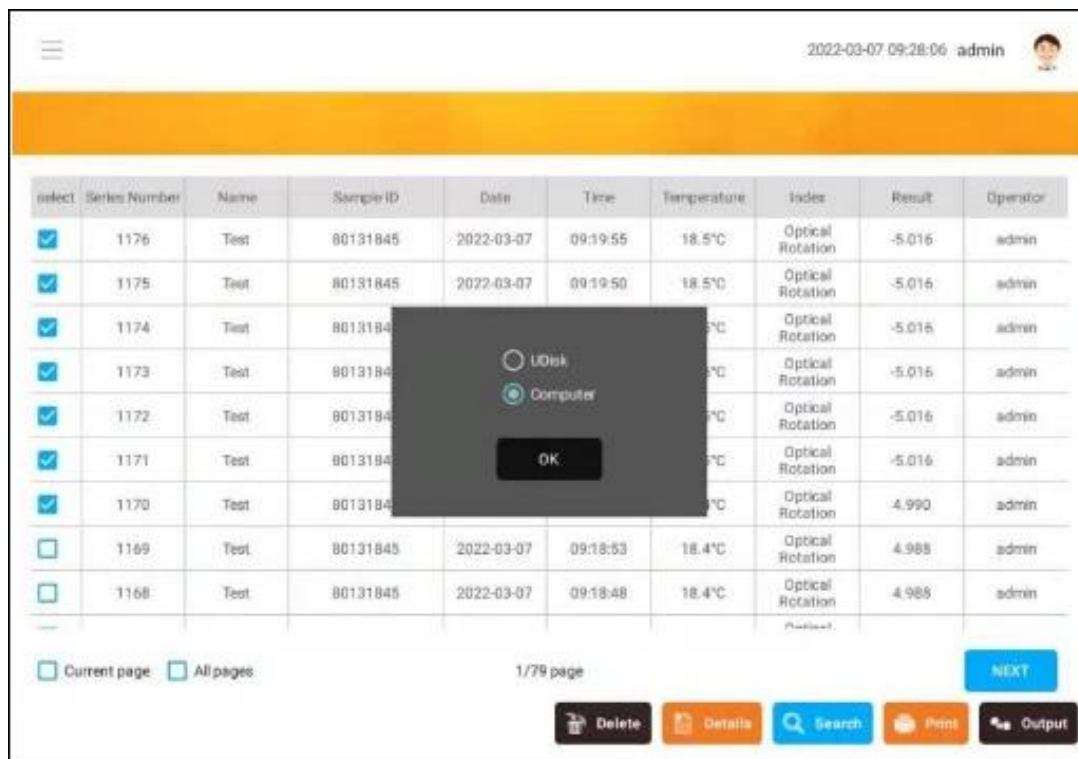
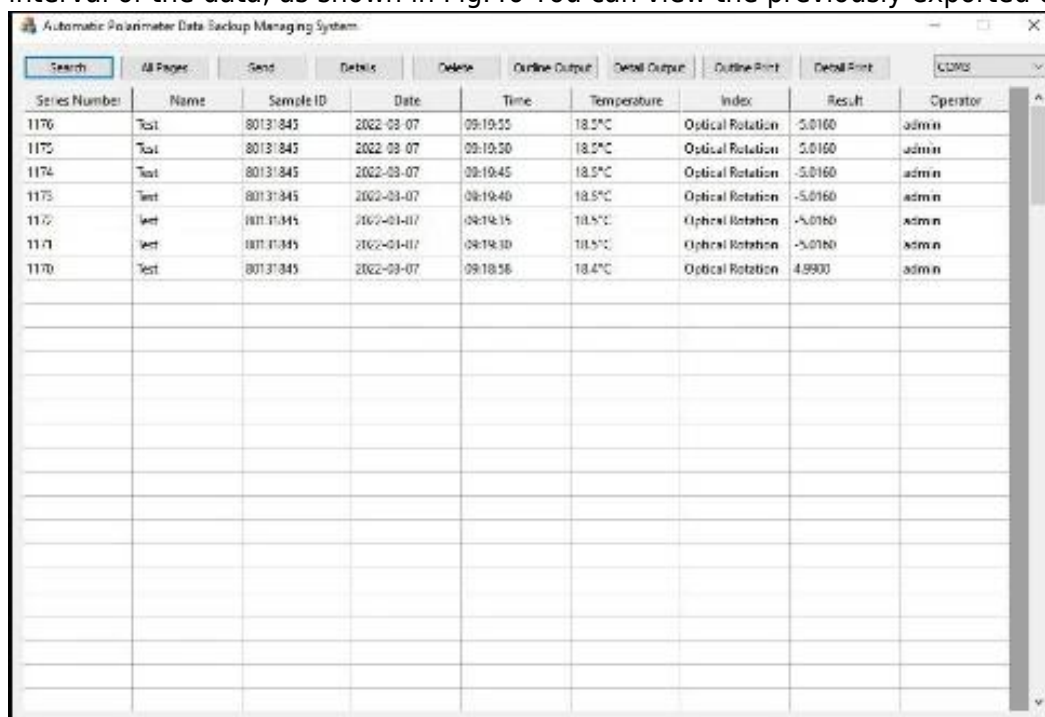

Figure 46
Figure 47
9. Check the data to be exported and click the "Export" button. In the dialog box shown in Fig.46 below, select "Computer" and click "OK" to complete the data export.
10. Check whether the exported data exists on the interface of the upper computer, as shown in Fig.47 If the data is not deleted, the upper computer stores the data by default. Click "Search" to set the test date interval of the data, as shown in Fig.46 You can view the previously exported data.